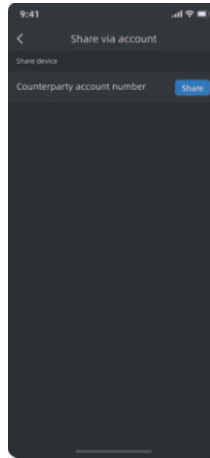

Figure 3
3)Figure 3: Enter the other party's account to share;If it fails, you can share again according to the prompts.